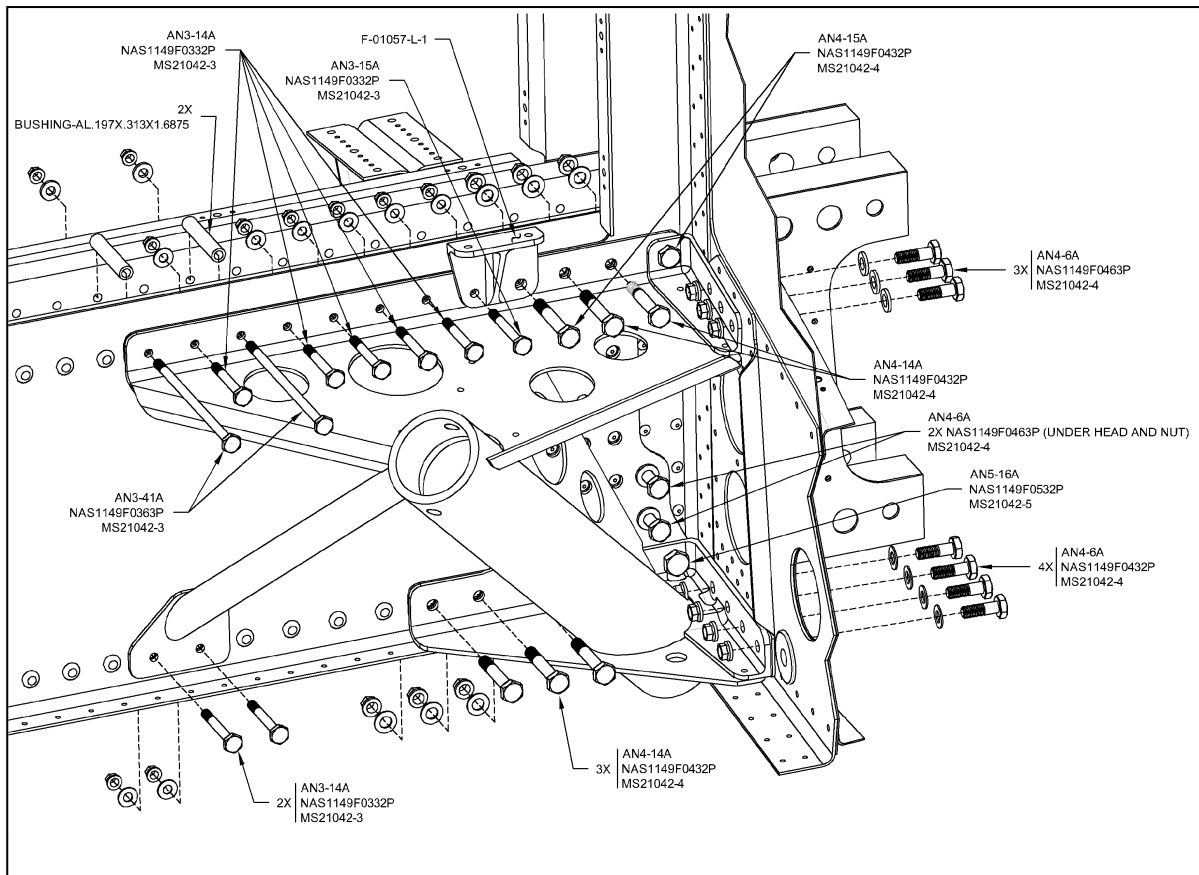

FIGURE 12: INSTALLING THE GEAR LEG WELDMENT
Step 41: Bolt the gear weldments in place along with the F-01057-L-1 & -R-1 Mid Seat Rail Supports as shown in Figure 12. Apply 'Boelube' to the shanks of the bolts (do not get any on the threads) and do not tighten any of the nuts until all of the bolts have been started in the carry through bars.